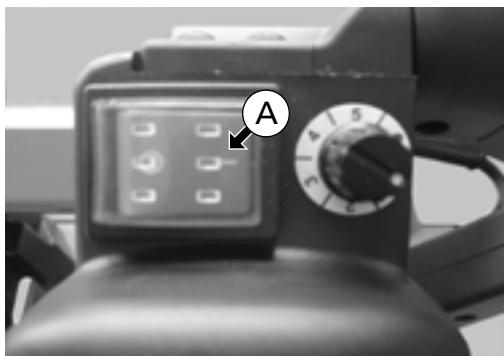

Fig. 7
If when the band saw is plugged in to the mains the (A) switch - (Fig. 7) it is not in the "OFF" position, the cutting blade may cause serious cutting injuries to the user.
Press the (A) switch until the "ON" position is lit - (Fig. 7).
Elements of Fig. 7 - 8